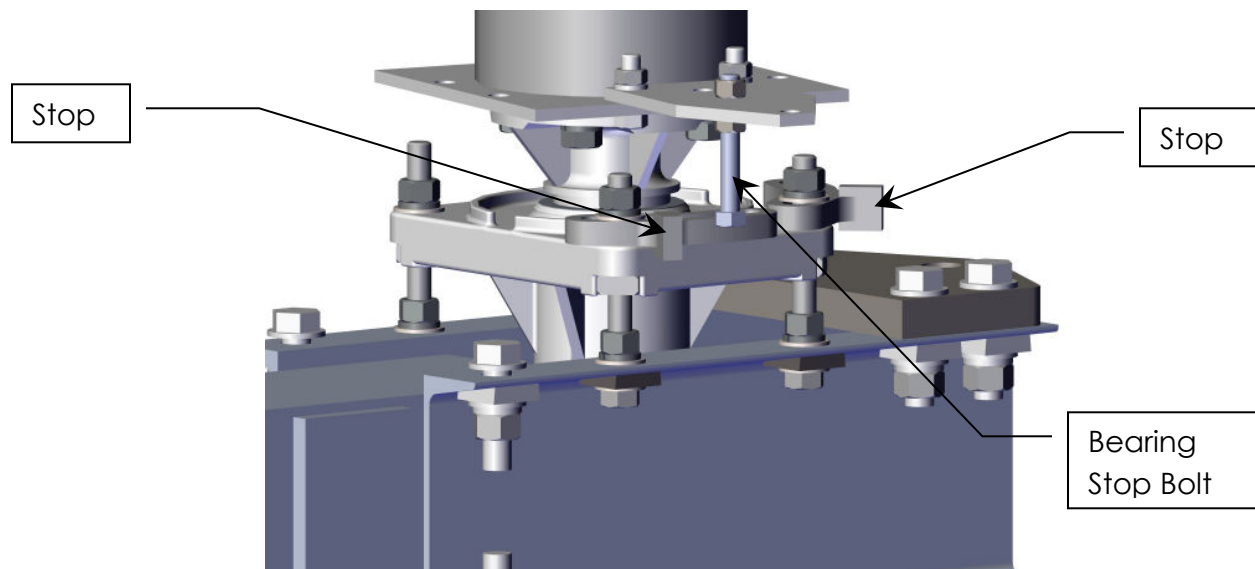

Figure 7: Bearing Stop Bolt Height
- 5) Extend the bearing stop bolt until it can interact with the bearing stops. See Figure 7.